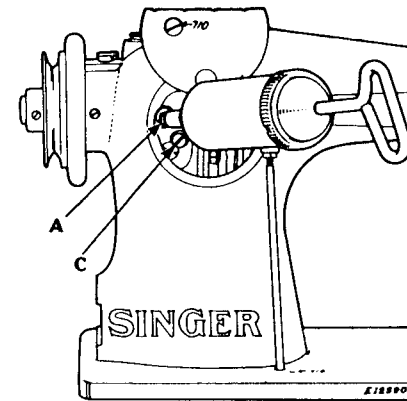

Fig. 4
Replenish the gear cases at (A) and (B), Figs. 4 and 5 with Singer Gear Lubricant every 160 hours of operation.
To supply grease to the upper gear case (Fig. 4), have the machine in its normal working position, remove the
level hole screw (C, Fig. 4) and force the lubricant into the Alemite fitting (A, Fig. 4) until it emerges from the level hole at (C), then replace the screw (C).